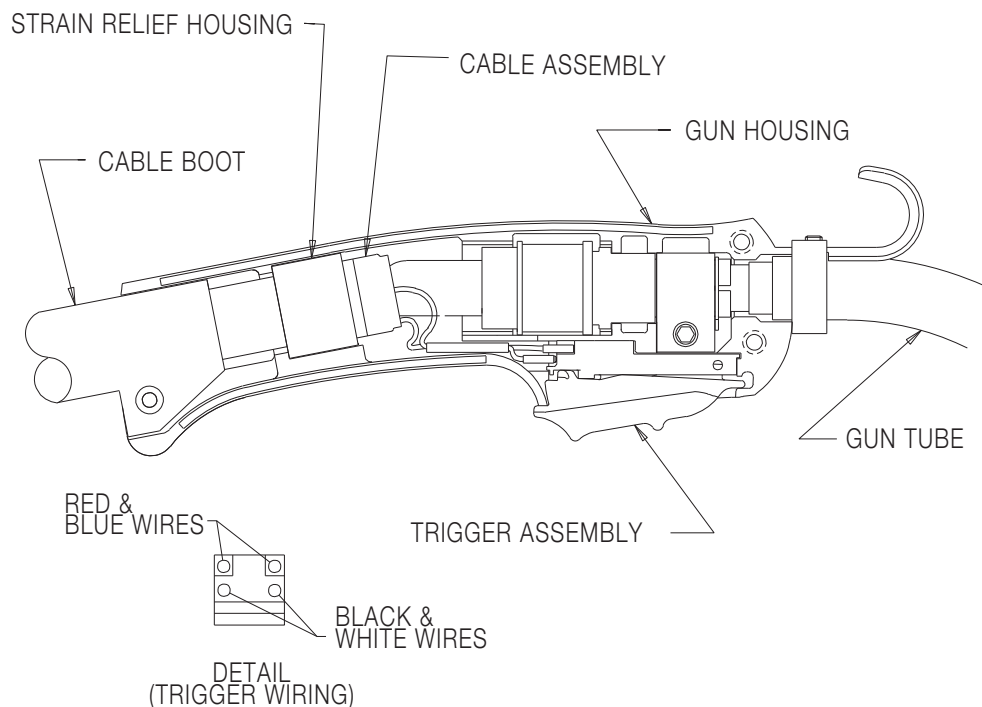

Figure E.5
Pull the cut-off lead terminals off the trigger assembly and connect the replacement control lead terminals. (See Figure E.5).
- k) Assemble cable in left side of gun handle. Assemble trigger into the proper handle cavity. (For K1723 also assemble the rocker switch in the groves provided in the handle.) Assemble right side of gun handle and tighten the screws that hold the handle together. (See Figures E.5 and E.6).